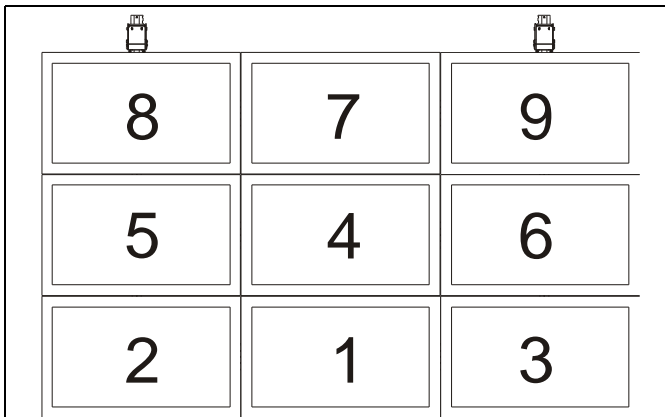

Figure 13
**WARNING:** Improper display installation can result in serious personal injury or damage to equipment! Install displays from the bottom to the top. Install all displays evenly in each row before proceeding to a higher row. Do NOT mount all of the displays on one side. On the LCM3X3, mount the center display in each row prior to installing the outside displays in that same row. (See Figure 13)